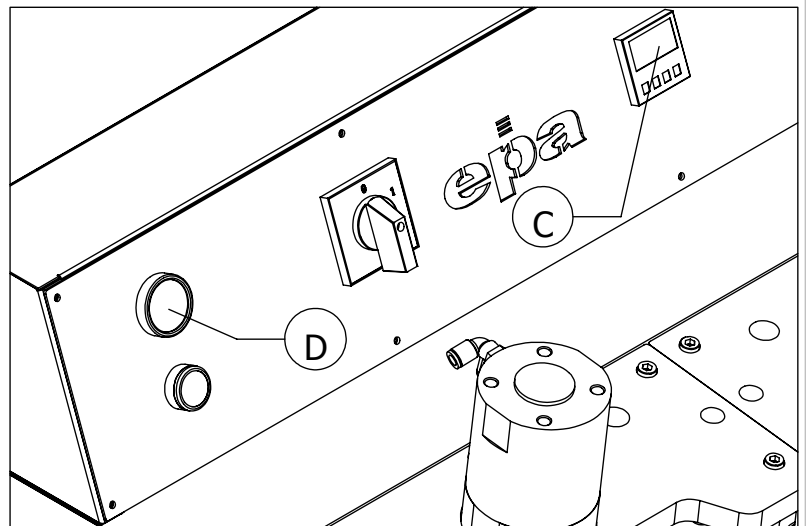

Figure 2
- Control the adjusted heat. (Figure.2)
- Control that adjusted heat is hot enough. (Figure.2)